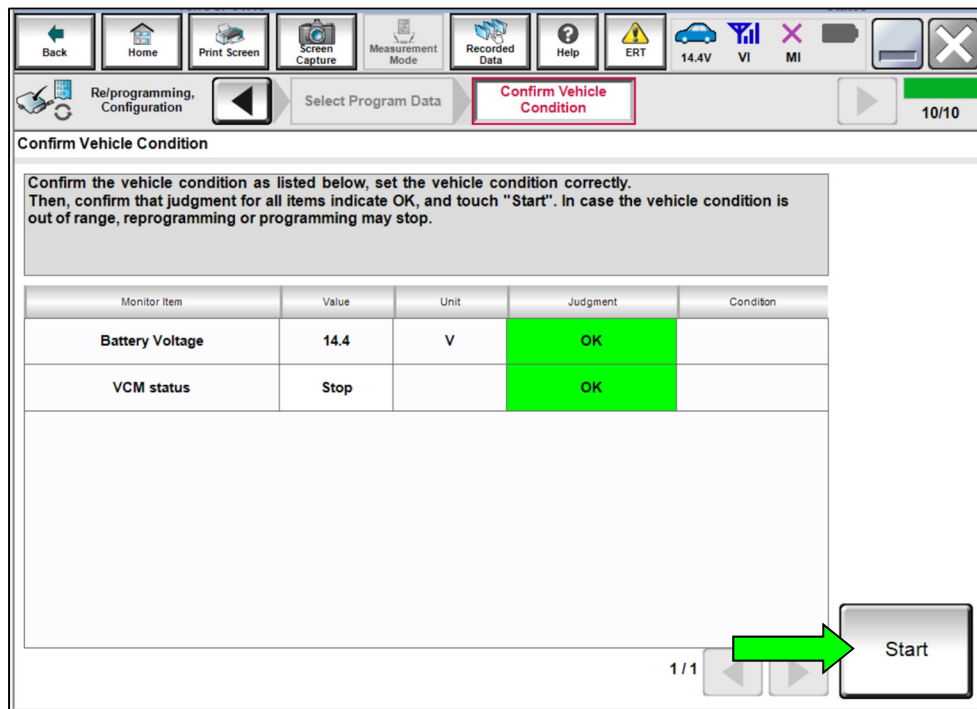

Figure 16
- If any of the items shown in Figure 16 display a status of NG, verify the battery maintainer/smart charger is turned ON and is securely connected to the 12V battery, and ensure the vehicle is NOT in Ready mode.